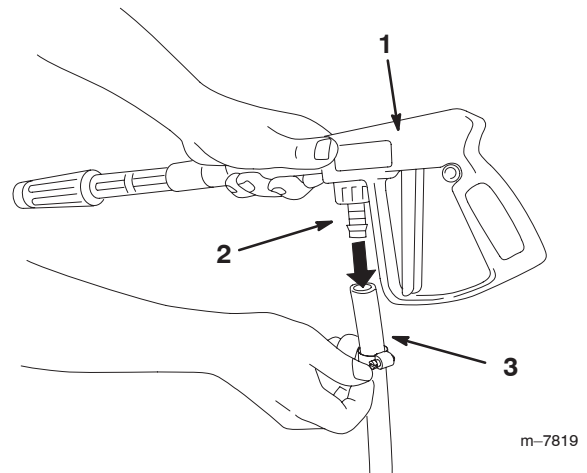

Figure 17
2. Connect the free end of the long hose to the fitting on the gun (Fig. 17).